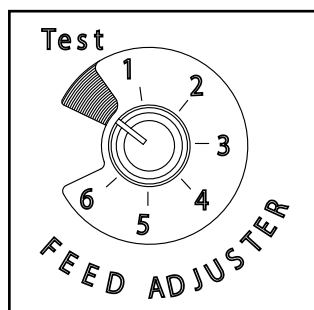

Figure 4.3
3. For your first fire it may be necessary to purge the auger system by putting the feed adjuster knob to "Test" prior to starting the unit. Figure 4.3. This insures that plenty of fuel enters the burn pot for proper ignition.